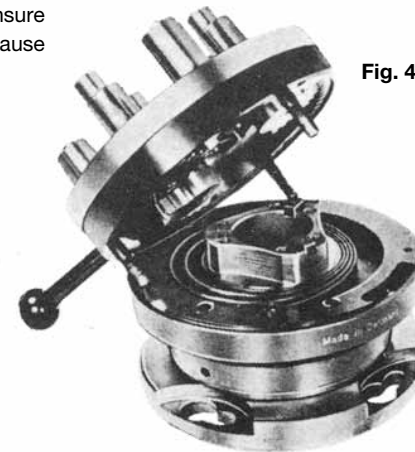
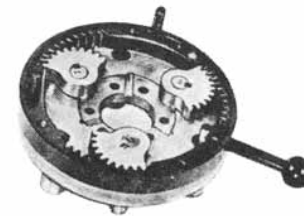

Fig. 4
Fig. 3
- The gears are to be brought into engagement (fig. 3), attention is to be paid to uniformness and perhaps marking “0” is to be noted. Gearing to be brought into approx. centre position.
- Assembly group (fig. 3) to be put on Lower Assembly Group (fig. 4). The “0” marking has to be in the area of the Guide Scale. Care should be taken to ensure that there is no gap within the ball track, because otherwise the Ball Bearings could drop out.